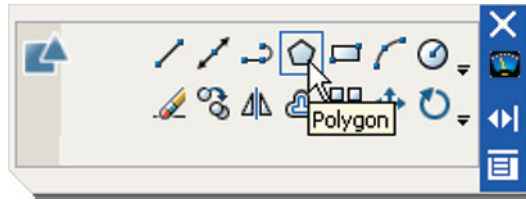

Fig. 3.23 The **Polygon** tool icon in the **2D Draw** control panel
1. Call the **Polygon** tool – either with a *click* on its tool icon in the **2D Draw** control panel (Fig. 3.23), by entering **pol** or **polygon** at the